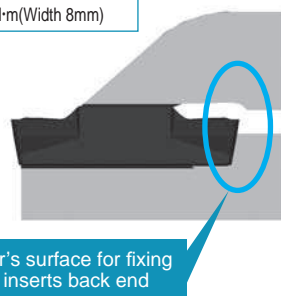

Fig. 2
2. Put the insert into the holder and push it until it makes contact with the back end of the holder's surface (see Fig. 2 and 3).